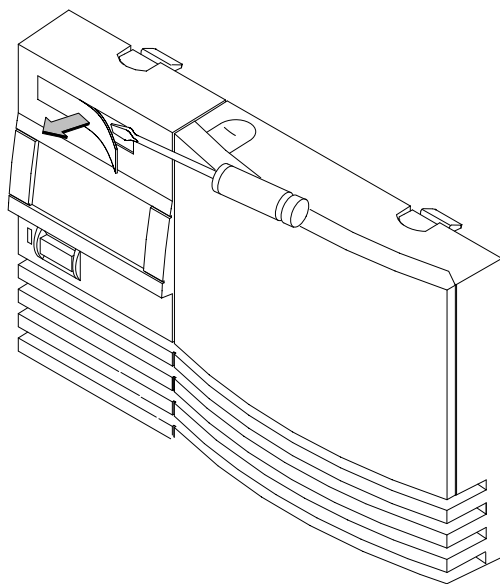

Figure 9. Prying Off the Old Model Label
3. Using the flat blade screwdriver, gently pry up the model label at each of the three sets of plastic grooves holding the label to the bezel. Refer to Figure 9.